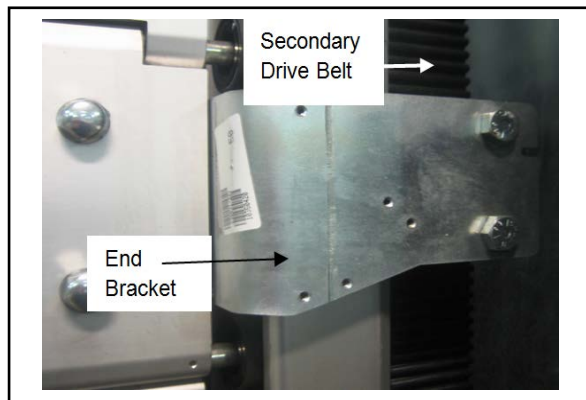

Figure 56
3. Mounted on the bottom corner of the door is an end bracket (one in each corner). This bracket is clamped around the two ends of the drive belt. (See Figure 56.)